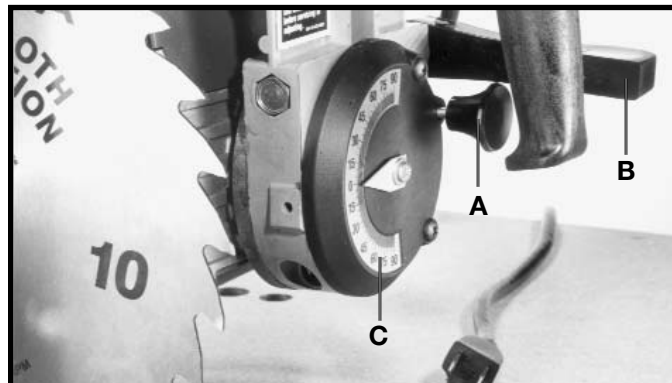

Fig. 72
Bevel index knob (A) Fig. 72, provides a positive stop when positioning the saw blade at zero, 45°, and 90° left, and 90° right on the bevel scale (C). To change the angle of the saw blade, loosen bevel clamp handle (B), pull out bevel index knob (A) and tilt saw blade and motor. For zero, 45°, and 90° left, and 90° right positions, release bevel index knob (A) and saw blade will index at each of these positions. Then tighten bevel clamp handle (B). For saw blade angles between positive stops, set blade at desired angle on bevel scale (C) and tighten bevel clamp handle (B) Fig. 72.